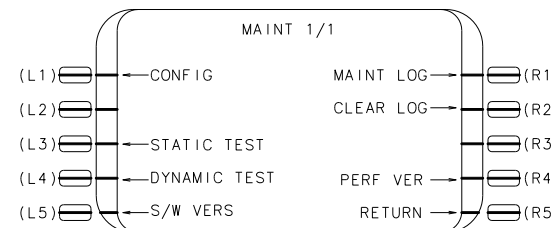

FIGURE 3
4. THE MAINT PAGE WILL APPEAR (REF FIGURE 3). PRESS CONFIG LSK.
- PRESS THE RETURN LSK. THE MAINT PAGE WILL APPEAR (REF FIG 3).
- THE MAINT PAGE WILL APPEAR (REF FIGURE 3). PRESS PERF VER LSK.